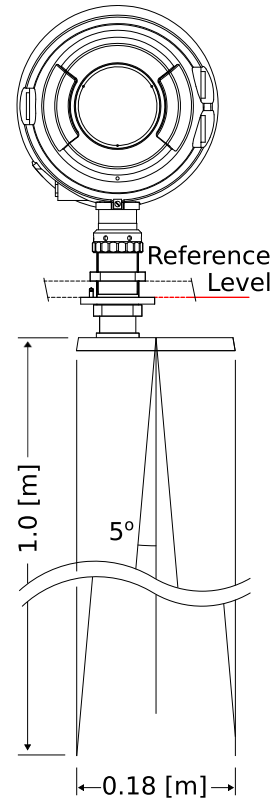

Figure 1.1: The 5° [deg] half top angle of the F08 antenna beam and the reference level for mounting height measurement.
- It is advised to choose a mounting position such that the WaveGuide radar beam is free of large reflecting obstacles (the beam of the F08 antenna can be approximated to a conical shape having a 5° [deg] half top angle as shown in Fig. 1.1). The minimum horizontal distance between a radar and any obstacle in the beam's path should be at least 10% of the vertical distance between the radar and the obstacle. This does not only include horizontal objects in the beam's path but also vertical structures.
- The reference level for the mounting height of the radar is shown in Fig. 1.1.